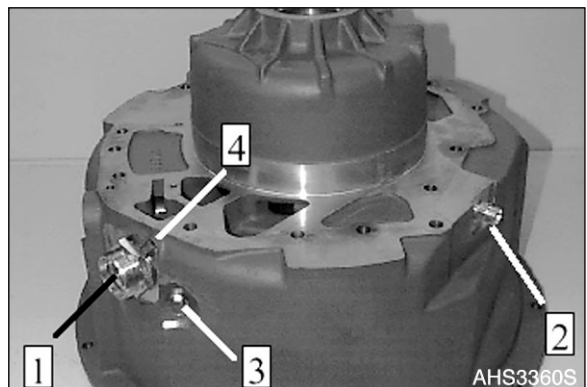

Figure 388
15. Wet thread of the screw-in sleeves (1 and 2, Figure 388) with Loctite #262 and install the two screw-in sleeves.
16. Equip screw plugs (3 and 4, Figure 388) with new O-rings and install them.